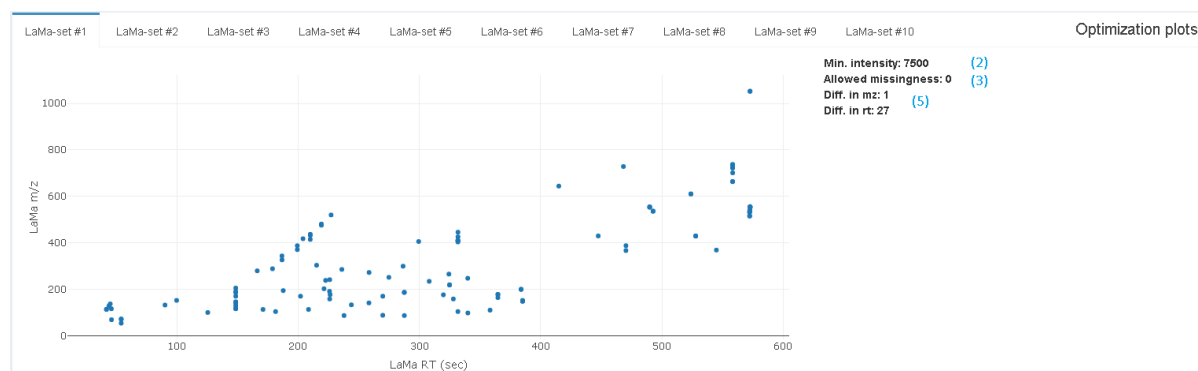

Figure 2. Plot of one of the 10 suggestions for LaMa sets obtained from optimization.
E.g., if you monitor the top level “Data” folder, you may want to specify folder depth 4, corresponding to experiment, chromatography, polarity and batch, where the raw data are actually stored on the instrument computer (Figure 2). However, the folder structure may differ between softwares and labs.
*Figure 2. Shows an example of a folder structure where folder depth should be equal to 4, where a) shows the folder that should be selected in Step 1, and b) demonstrates 4 folders downstream where the raw data files will be generated.*